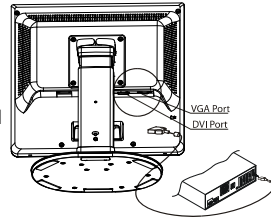

Figure 1-3
2. Connect one end of the signal cable to the LCD Monitor's VGA port or DVI port. (See Fig 1-3)
Before installing to mounting device, please refer to Fig.1-3.